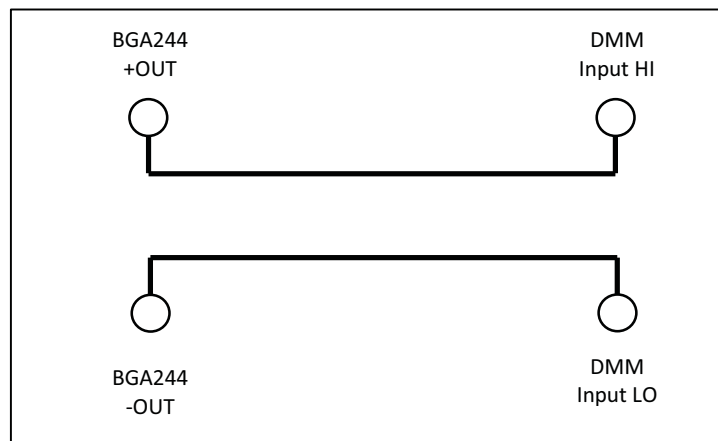

FIGURE 33: SETUP FOR MEASURE OUT VOLTAGE TEST
1. Connect the Measurement Output (C6) to the DMM as shown in Figure 33. Set the DMM to measure DC Volts at maximum resolution. Select auto range.